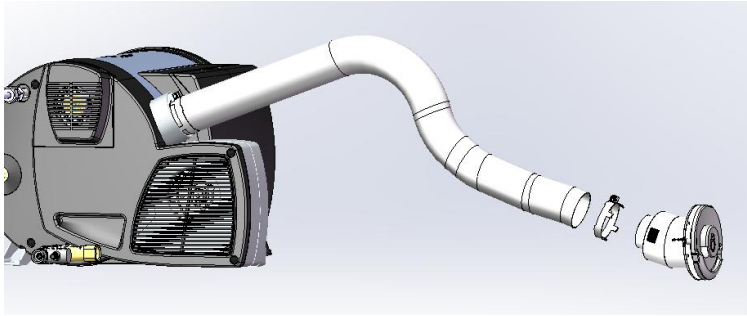

Fig 7
1. The exhaust pipe is installed inside the intake pipe, one end is fixed on the exhaust port of the boiler unit, and the other end is fixed on the intake and exhaust port body. Figure 7.